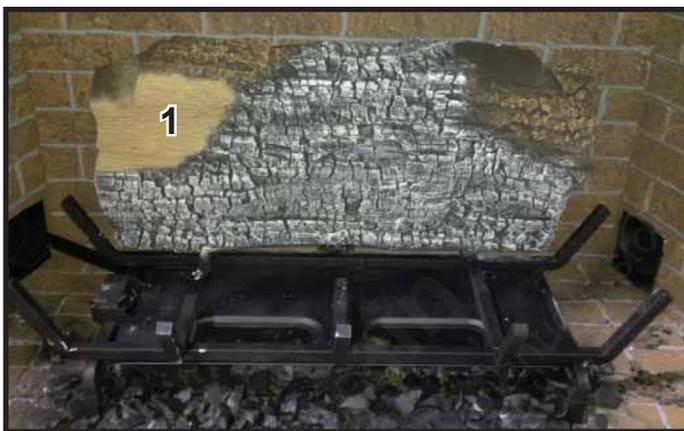

Figure 3.
**CAUTION:** Logs are fragile, handle with care. **Log #1 (2282-701):** Locate log placement notch on the bottom of Log #1. See Figure 2. Mate outer notches on the bottom of Log #1 with the left and right grate tines. Slide Log #1 toward the rear of appliance until back side of Log #1 contacts the log placement tabs shown in Figure 1. See Figure 3.